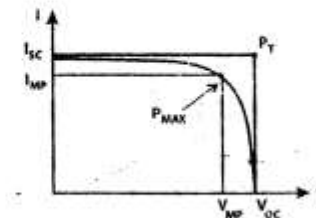

Fig. 1.4. Graphical interpretation of the Fill factor (FF)
Fill factor: The Fill Factor (FF) is essentially a measure of quality of the solar cell. It is the ratio of the actual achievable maximum power to the theoretical maximum power (P_T) that would be achieved with open circuit voltage and short circuit current together. FF can also be interpreted graphically as the ratio of the rectangular areas depicted in Fig.1.4. A larger fill factor is desirable, and corresponds to an I-V sweep that is more square-like. Typical fill factors range from 0.5 to 0.82. Fill factor is also often represented as a percentage.